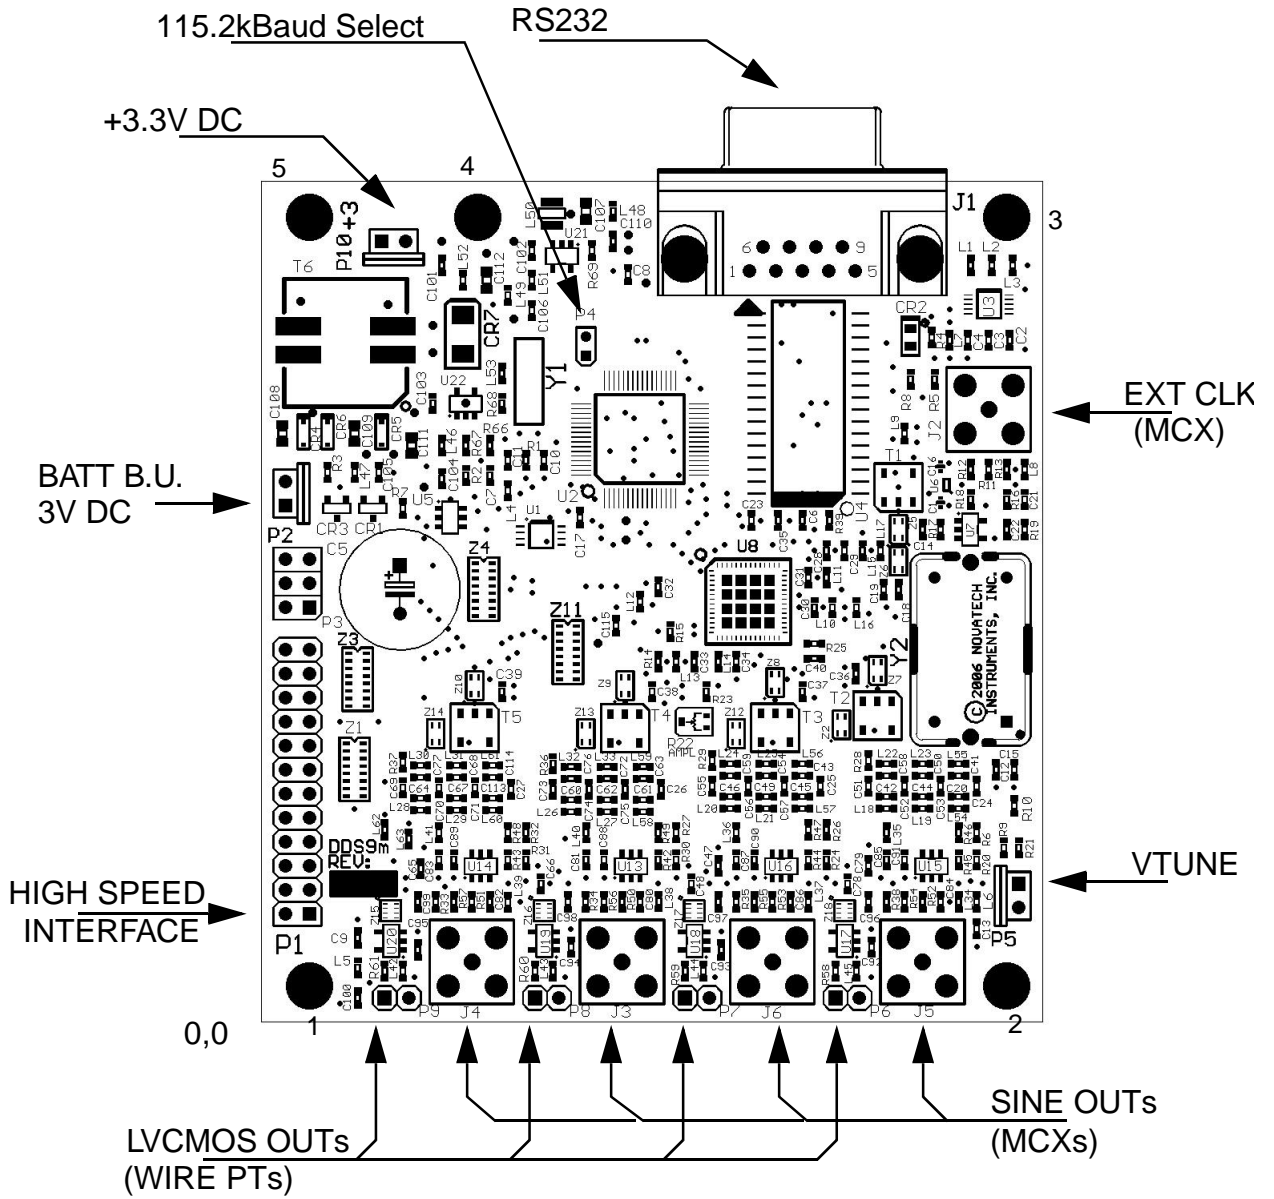

Figure 1: Component Placement
3.1 **Power Connection.** Figure 1, Connection Placement Diagram, shows a top view of the DDS9m module. The required power of +3.3Volts DC is applied through a 2-pin connector (mates with Amp 640621-2). If you are using a Novatech Instruments, Inc. supplied connector, Red is +3.3VDC and Black is the common return.
3.16 Mounting. Five mounting holes are provided on the board. These holes are electrically connected to circuit common and may be used for shield connections. Clearance is provided for up to 3mm diameter screws. Please allow at least 3 mm clearance on the bottom side when mounting to a conductive chassis or case. Refer to Table 3 and Figure 1 for locations.
A jumper is provided to select 115.2kBaud as the default Baud Rate. Refer to Figure 1 for location. When the 2mm jumper is moved so the header pins are open, 115kBaud is selected. It is suggested that the jumper be left on a free pin for future use.